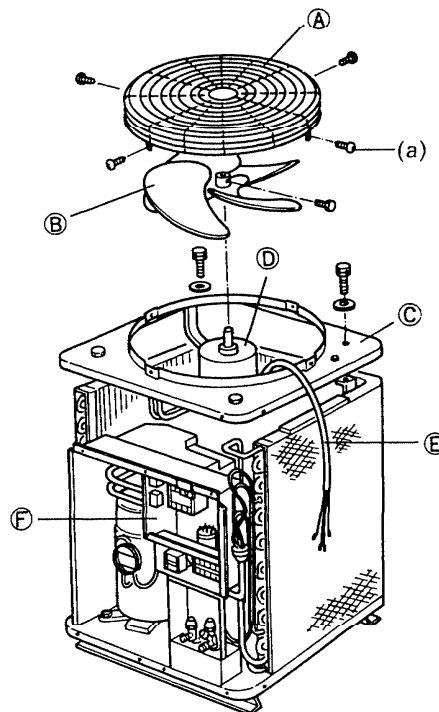

Fig. 8
- 1) Remove the fan (B) and fan motor (D) by lifting up after removing the guard (A) and loosening one screw (a) of the fan.
- 2) Disconnect the fan motor wires (E) from the electrical component box (F) and then, remove the top cover (C) with fan motor Fig. 8